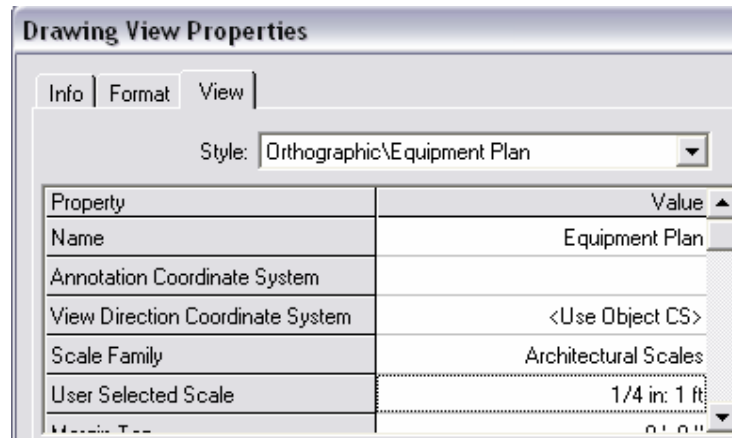

Figure 9: Drawing View Properties
12. Name the view **Equipment Plan** and select the Scale Family **Architectural Scales** and Scale **1/4in: 1 ft** as shown in Figure 9 and click OK.